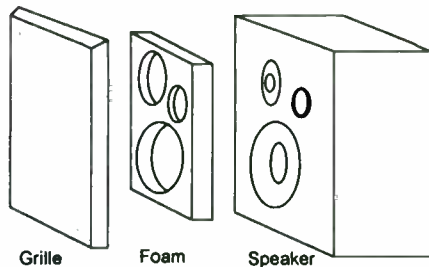

FIGURE 15: Foam for moderating diffraction inside grille frame.
When I developed the kitchen units, I optimized everything with the grilles off. But exposed woofers and tweeters are not usually appropriate kitchen decorations, and the unclothed speaker responses were irrelevant. With the wooden-framed grilles back on, the response was lousy. I eventually fixed this by (1) readjusting the crossover, and (2) installing a sheet of 1" foam rubber inside the grille frame (Fig. 15), with openings cut out to provide a clear path for the tweeter,